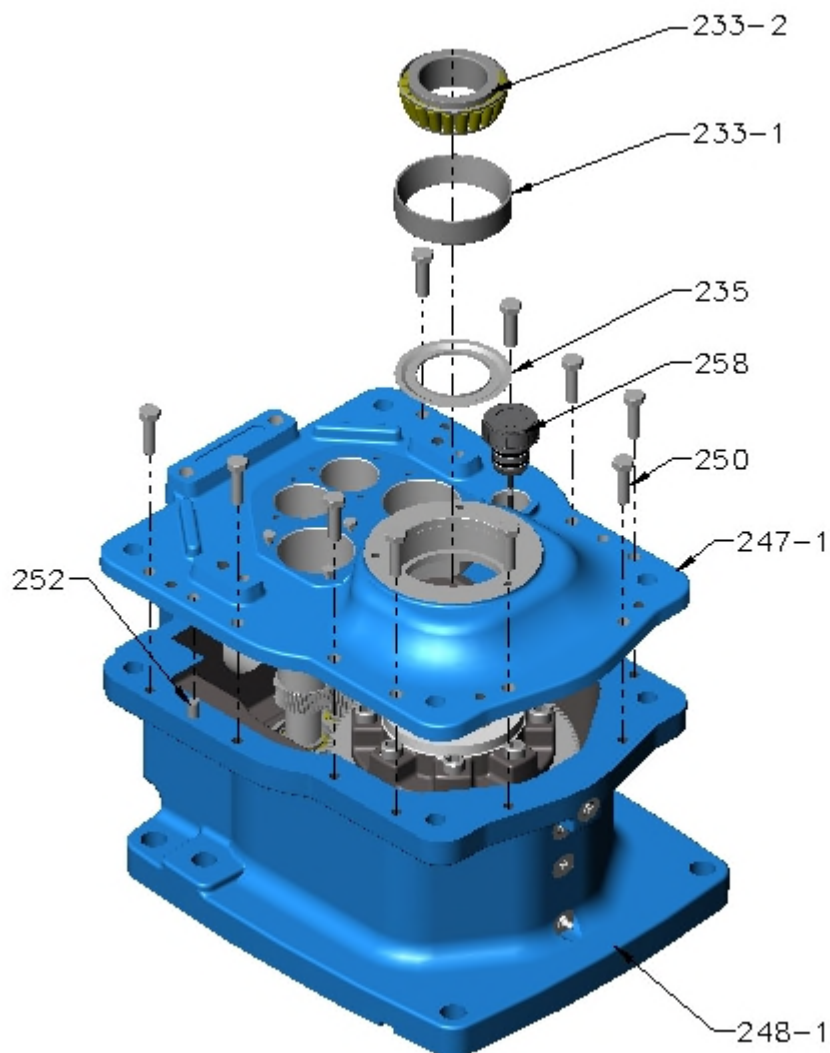

Figure 6 – Case Lid
- F. Remove case lid **[247-1]** (refer Figure 6).
- (1) Remove dipstick/breather **[258]**.
- (2) Remove bolts **[250]**.
- (3) Install jacking screws [Local supply].
- (4) Tighten jacking screws [Local supply] until bearing **[233-2]** clears output shaft, then remove case lid **[247-1]**.
- (5) Remove dowel pins **[252]**.
- G. Remove from case lid **[247-1]** (refer Figure 6):